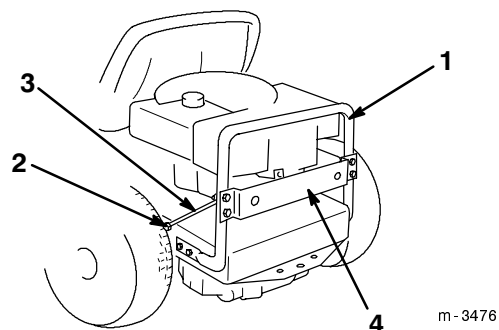

Figure 3
This section describes the procedures for installing the mounting bracket and bagging brace on a rear engine rider with a wrap-around stand bar, serial number 3900001 and up (Fig. 3).
1. Remove the top center bolt from the left side of the rider frame (Fig. 3).
2. Loosely attach the bagging brace to the rider with the bolt removed in step 1 (Fig. 3).
3. Position the mounting bracket across the wrap-around stand bar, aligning the holes in the bracket with the holes in the stand bar (Fig. 3).